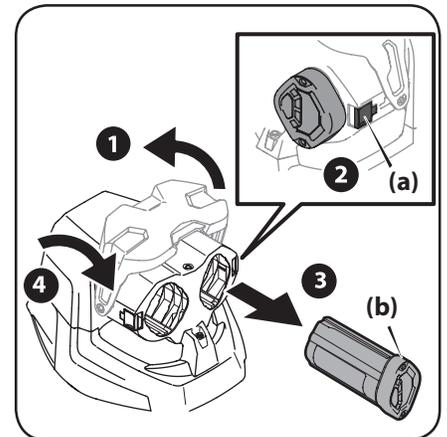

Figure 3-3
2. Push in the battery release tab (a). See Figure 3-3 inset.